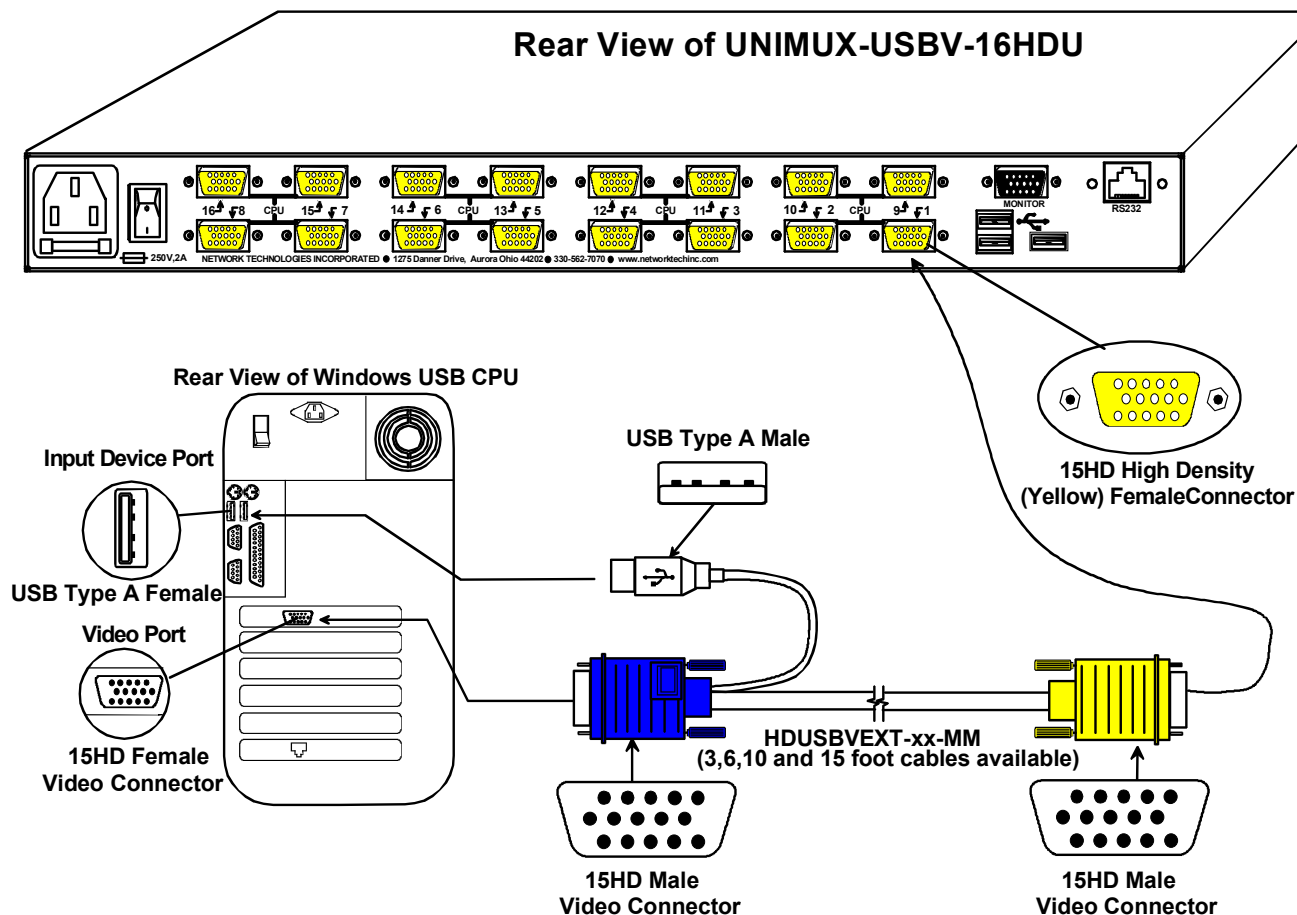

Figure 7- Connect each CPU using a HDUSBVEXT-xx-MM cable
- Connect the 15HD yellow male cable end of the HDUSBVEXT-xx-MM cable to a yellow “CPU x” port on the UNIMUX switch. (See Figure 7)
See Fig. 7 for some examples of input device combinations that can be used with the UNIMUX.